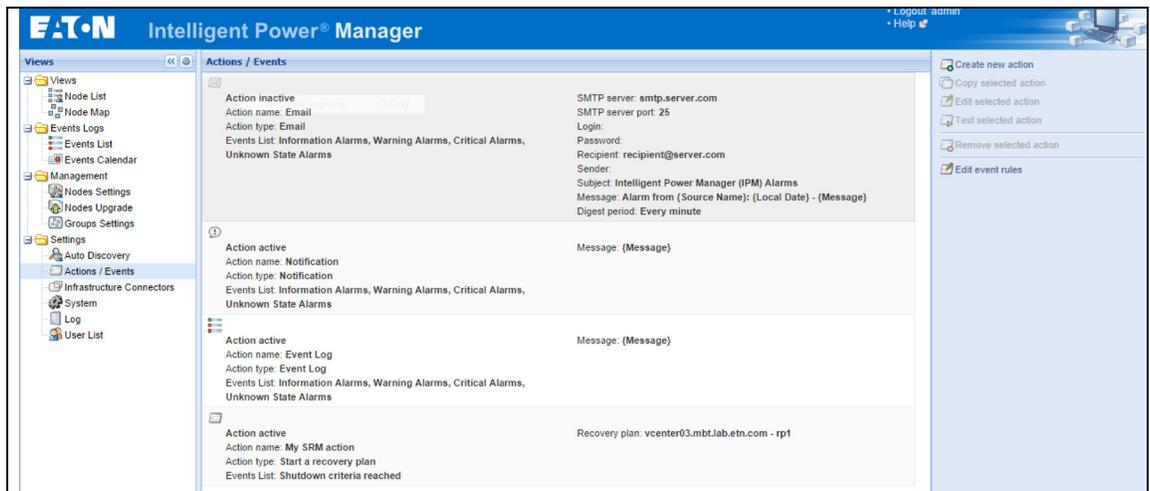

Figure 183. Actions / Events Panel
4. After you are satisfied with your settings, you can save the configuration (see Figure 183).